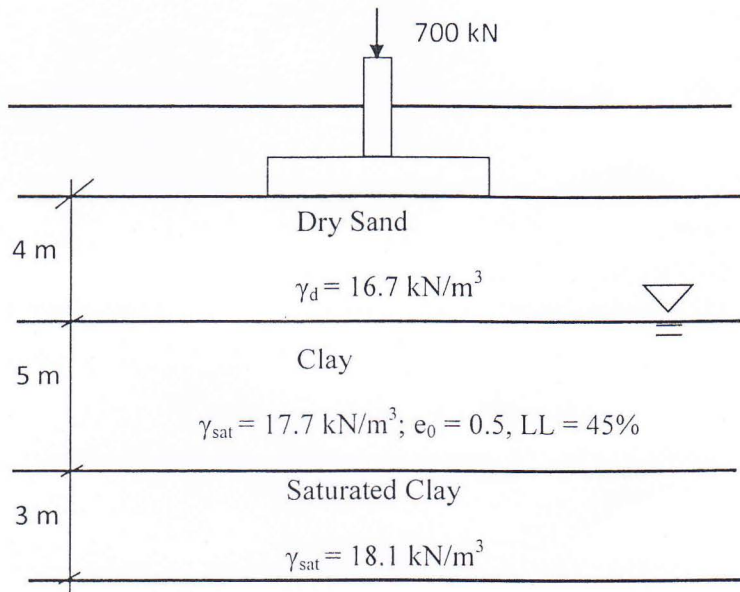

Figure 5
12. Calculate the primary consolidation settlement due to the stress transmitted to the soft clay layers from the foundation (as shown in Figure 5). The square footing size was 2 m x 2 m. The clay is normally consolidated. Given that:  $C_c = 0.009(LL - 10)$